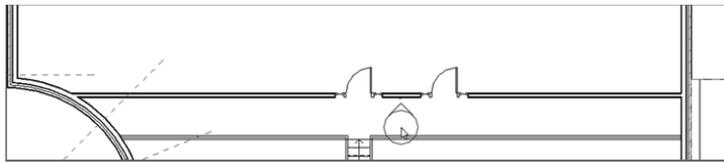

FIGURE 10.74 : Pick the point as shown for the elevation.
4. Place it in the corridor wall aligned with the stairs, as shown in Figure 10.74.